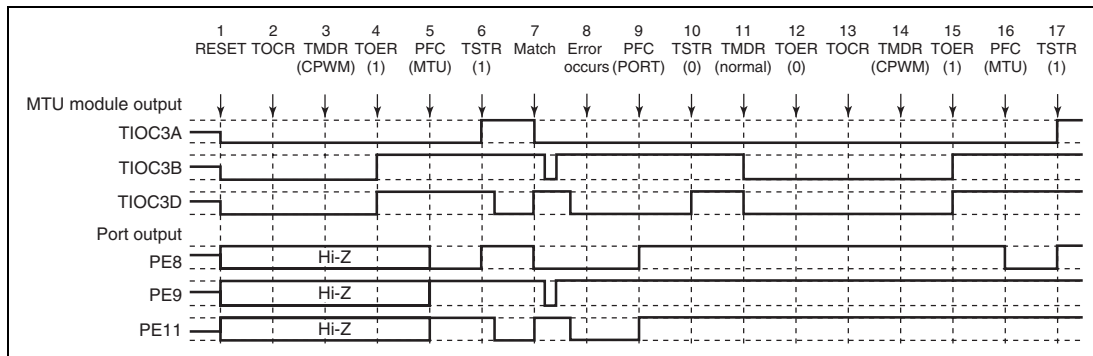

**Figure 11.108 Error Occurrence in Complementary PWM Mode, Recovery in Complementary PWM Mode**
**Operation when Error Occurs during Complementary PWM Mode Operation, and Operation is Restarted in Complementary PWM Mode:** Figure 11.108 shows an explanatory diagram of the case where an error occurs in complementary PWM mode and operation is restarted in complementary PWM mode after re-setting (when operation is restarted using completely new cycle and duty settings).